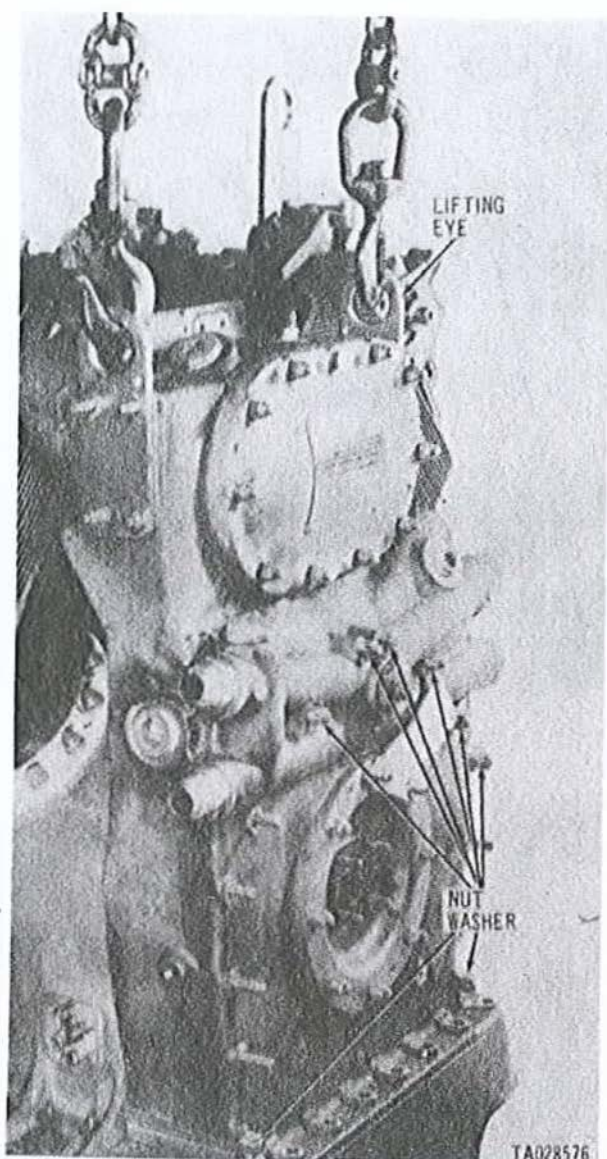

Figure 3-98. Removing or installing crankshaft damper and oil filter housing.
d. Remove eight self-locking nuts and flat washers (fig. 3-98) attaching crankcase damper and oil filter housing to crankcase assembly. Hook a suitable chain or hoist into lifting eyes. Take up housing weight on chain or hoist and separate housing from crankcase assembly.